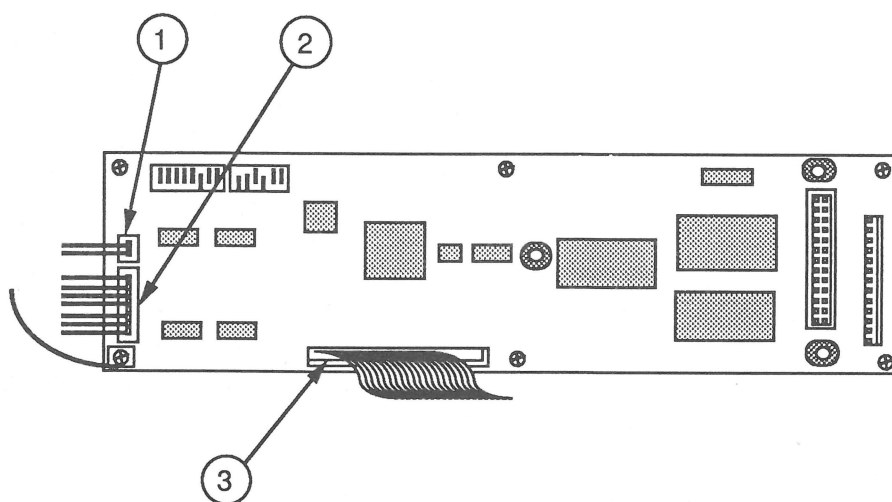

FIGURE 11
11. Release the connectors at locations CN3 and CN9 (Figure 11, #1 and #2) from the left side of the main logic board. Release the gray ribbon connector (Figure 11, #3).